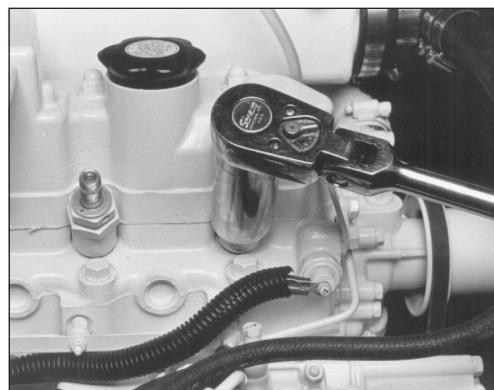
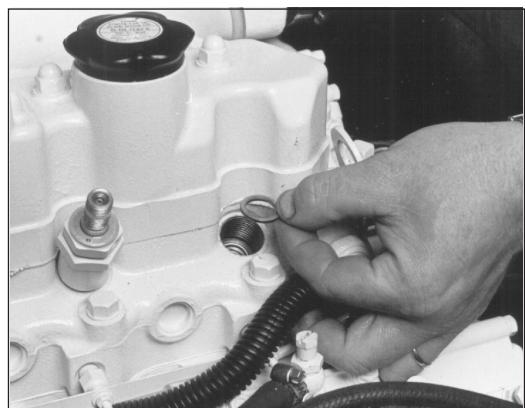

Figure 14: Unscrew injector.
Figure 15: Remove and replace copper sealing washer.
- d. Remove the return line retaining bolts (Figure 14). Remove the return line (Figure 15).